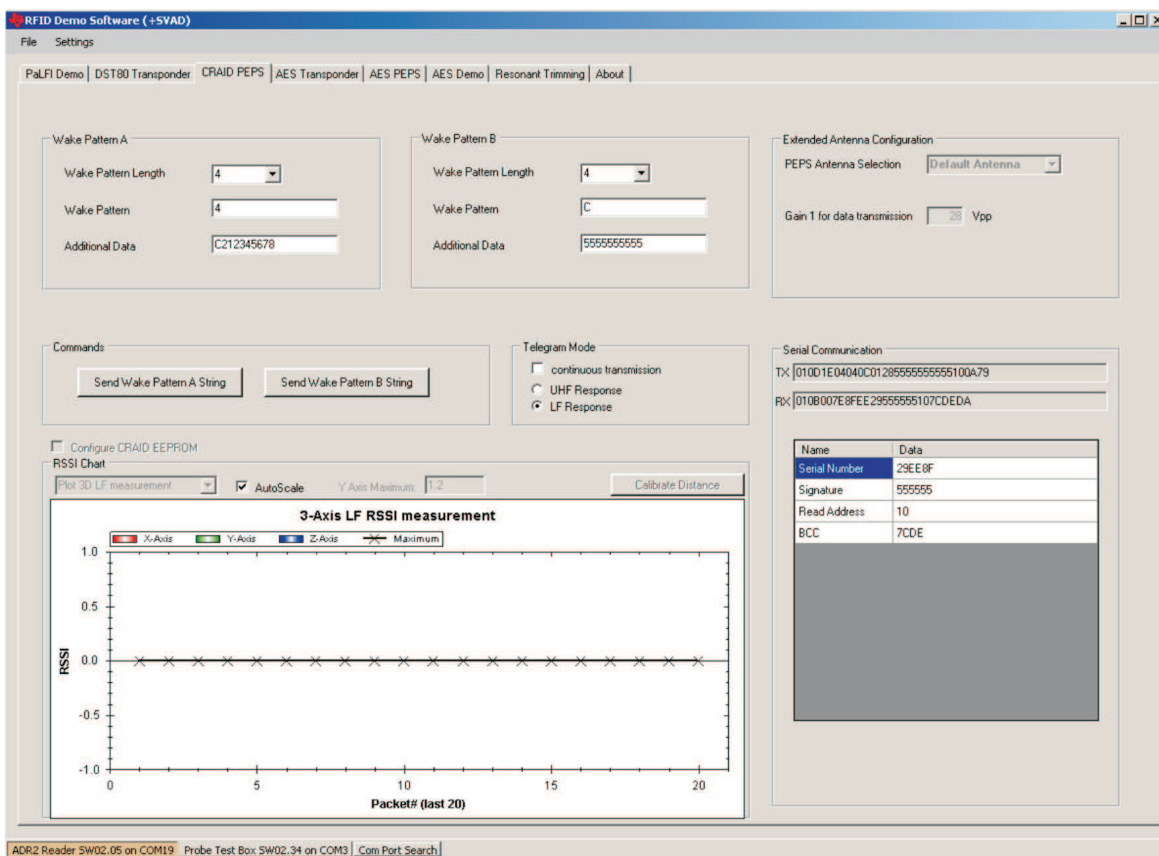

Figure 20. CRAID PEPS Tab
11. Select the *CRAID PEPS* tab as shown in Figure 20.